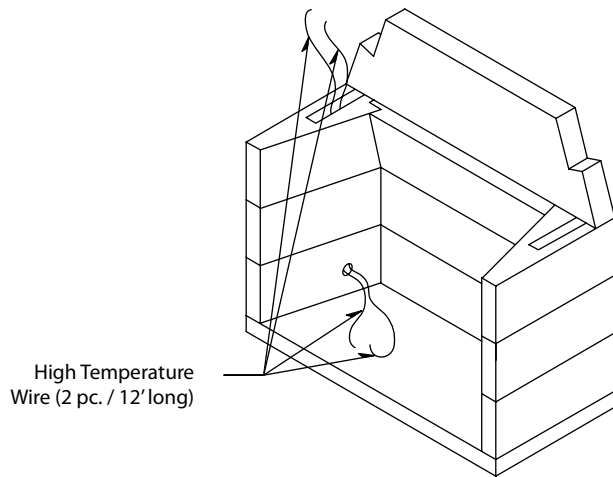

Figure 10
**Step 6:** Begin the smoke dome assembly by setting the rear bottom smoke dome component on top of the firebox back wall assembly in a bed of Earthcore Mortar. The smoke dome component should sit flush with the back side of the firebox assembly. (Figure 10)